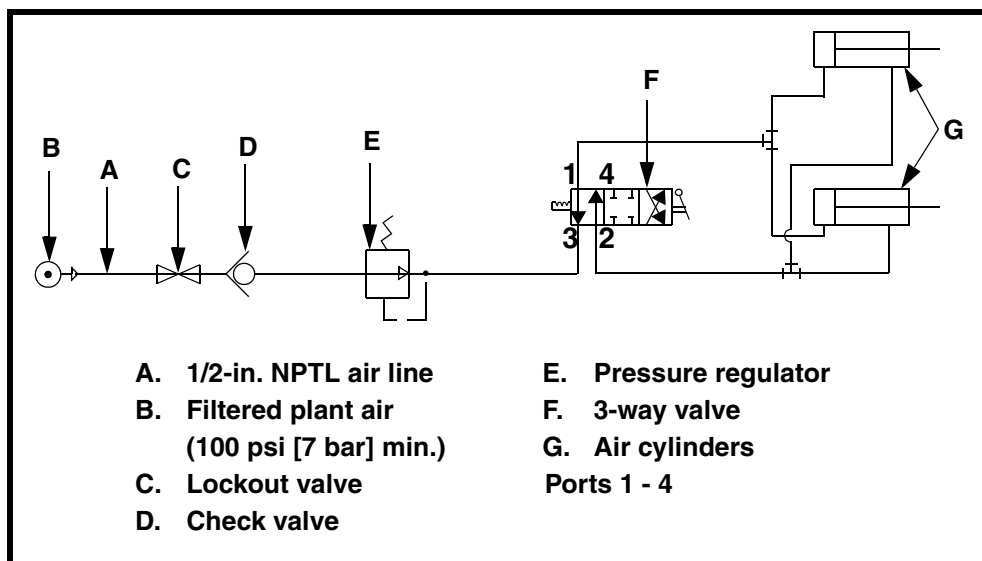

Figure 17. Air Cylinder Schematic (dual tensioners)
12. Install air line to air tensioner as shown in Figure 17.
- a. Install air line from port 1 on 3-way valve into one of two ports on air cylinder (G). If dual air tensioners are used, run air line through mainframe to far side air cylinder.